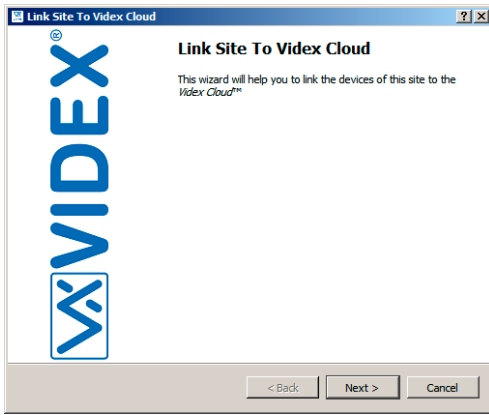

Fig. 36 Click on Videx Cloud-> Link Site to Videx Cloud
- Click on "Videx Cloud-> Link Site to Videx Cloud" (Fig. 36) then click on the "next" button.